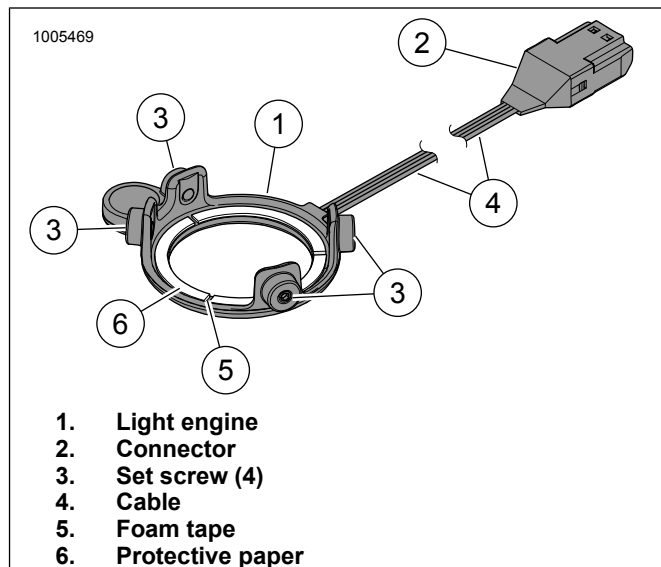

Figure 14. LED Light, Round Stage I Speaker
3. See Figure 14. Remove protective paper (6) from foam tape (5) on back of light engine (1).